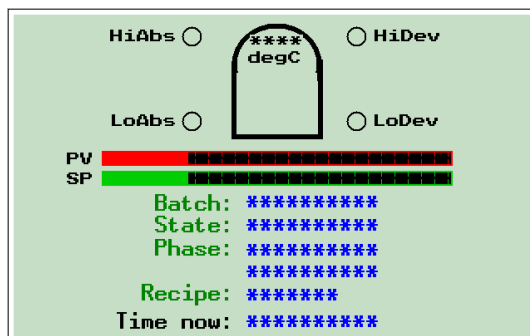

Figure 8-9 The modified user screen
Figure 8-9 shows the 'Vat' user screen modified for the sequence application. Notice that the '**Phase**' readout now has *two* text variable readout lines instead of one. In the setpoint program application the readout was linked to a single instrument variable (associated with the setpoint program) called `_SPP_SEG_S` which reported the current program segment (i.e. batch phase).
- 9 Now hit the 'Down' arrow key to increment the still-selected text variable downwards to a suitable position (see Figure 8-9). This forms the second 'Phase' readout field.